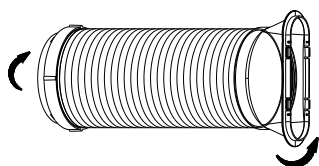

Fig.18
1. Install the window Exhaust adaptor B onto the exhaust hose as shown in Fig.18. Refer to the previous pages for window kit installation.